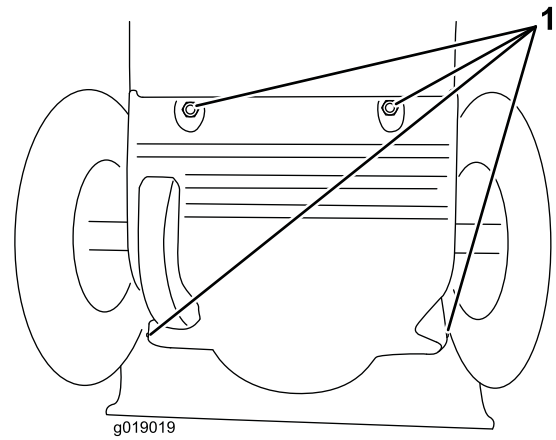

Figure 43
- Remove the back cover (Figure 43).